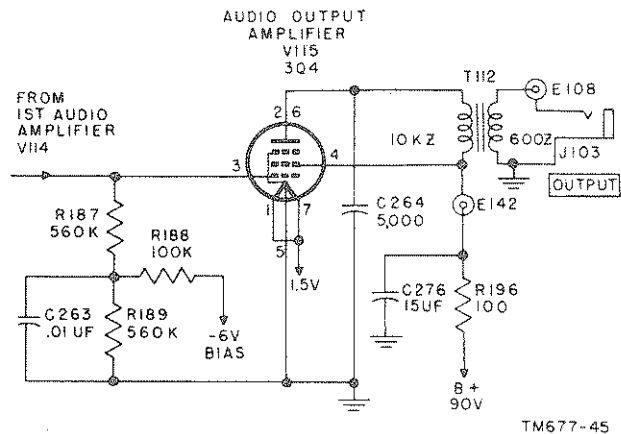

Figure 45. Radio Receiver R-395/PRD-1, functional diagram of audio output amplifier.
82. Audio Output Amplifier (fig. 45)